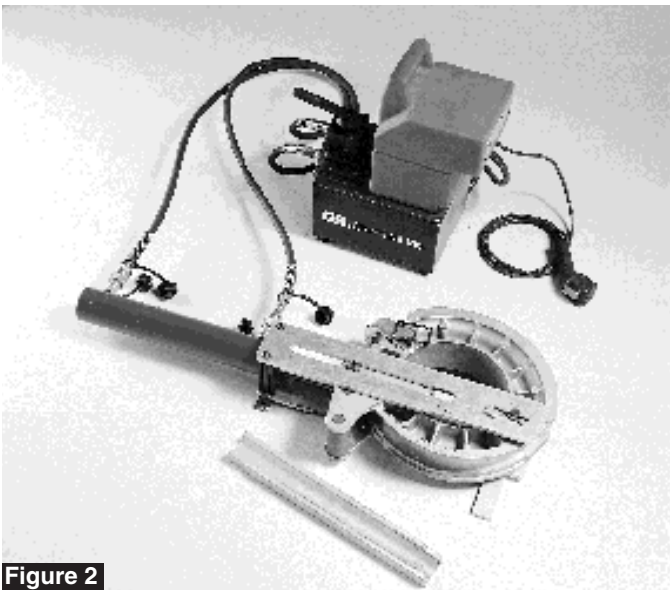

Figure 2
1. Select a work location with a reasonably flat surface and, preferably, free of sand, gravel, or other debris that might interfere with the bending operation. (See Figure 2.)